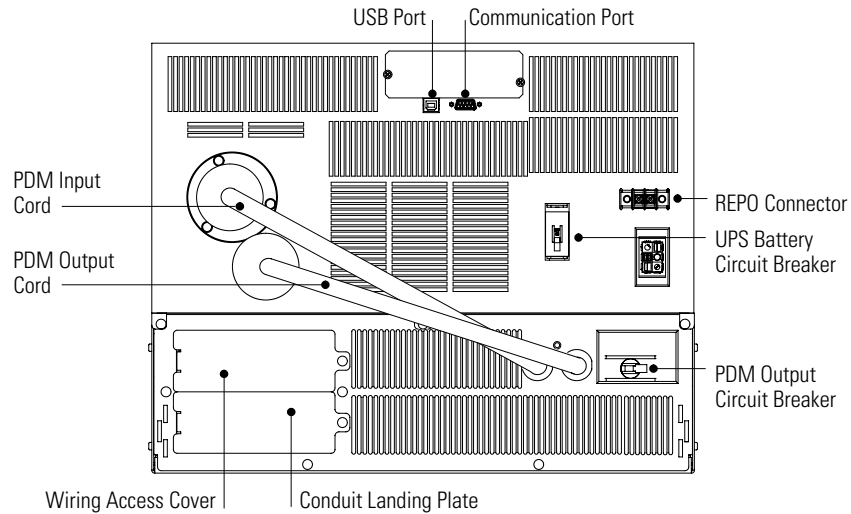

Figure 10. UPS and Hardwired PDM Installation
3. Verify that the PDM output circuit breaker is in the OFF position (see Figure 10 on page 23).
6. Remove the wiring access cover and the conduit landing plate and retain (see Figure 10).
12. Plug the input and output cords of the PDM into the input and output power connectors on the UPS rear panel (see Figure 10).